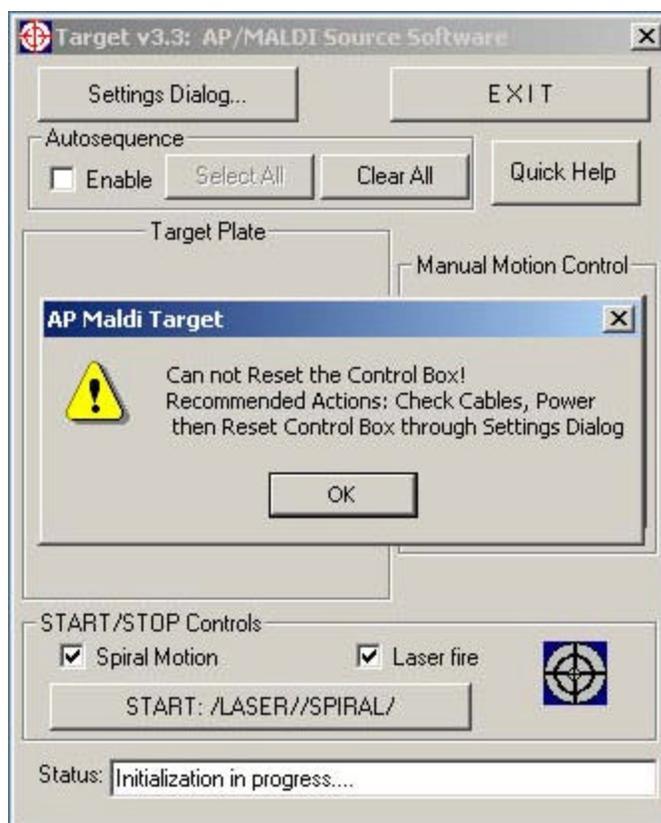

Fig. 6-2
At this moment the initialization of the XY stages will start automatically. If everything has been connected properly, you will see the target motion at the TV monitor: for the initialization the target first moves to its most down, then – to most left position, then – to the spot specified by the spot selector. If the Power On indicator on the Control Unit is OFF, or if the Control Unit is not properly wired to the computer, you will get the message shown in Fig. 6-2. Click OK if you get these error messages; the stages can be initialized manually later through the “Settings Dialog...”, described later.
1. *Uncheck* the “Autosequence-Enable” check box in the *TARGET* software window (see Fig. 6-2).